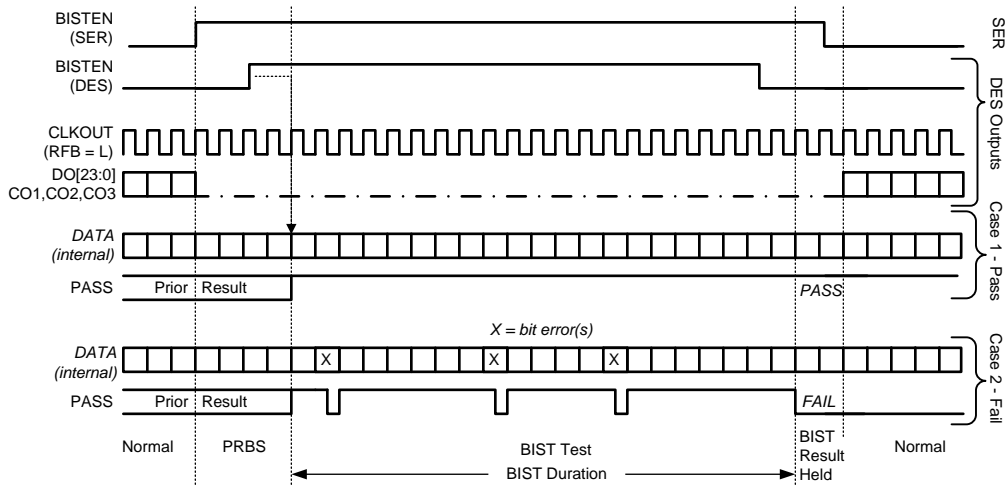

Figure 29. BIST Waveforms
**Step 4:** To return the link to normal operation, the Ser BISTEN input is set Low. The Link returns to normal operation. Figure 29 shows the waveform diagram of a typical BIST test for two cases. Case 1 is error free, and Case 2 shows one with multiple errors. In most cases it is difficult to generate errors due to the robustness of the link (differential data transmission etc.), thus they may be introduced by greatly extending the cable length, faulting the interconnect, reducing signal condition enhancements (De-Emphasis, VODSEL, or Rx Equalization).